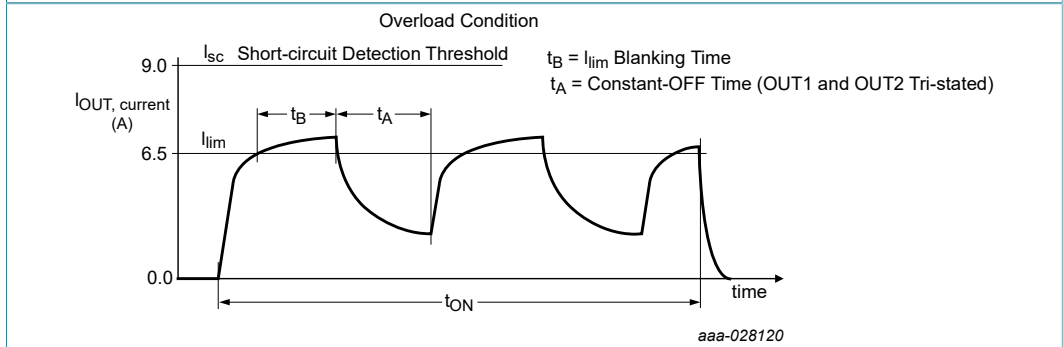
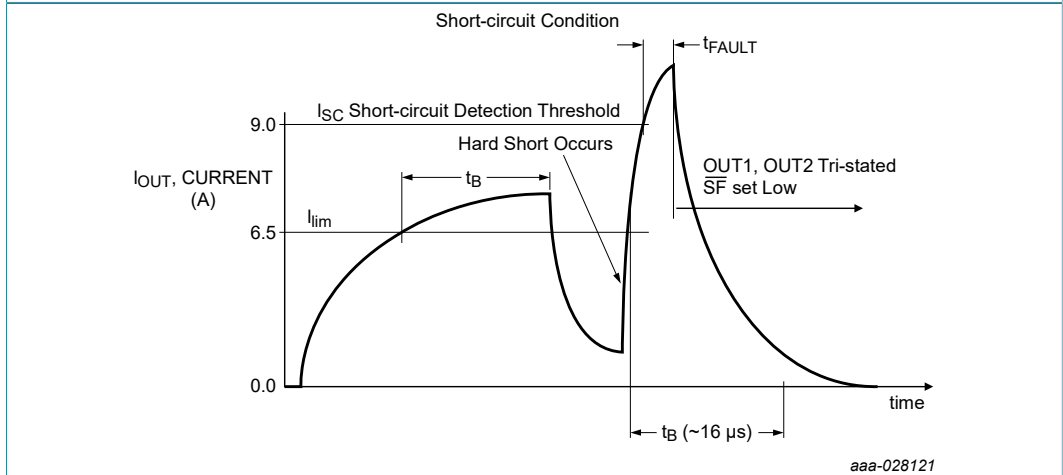
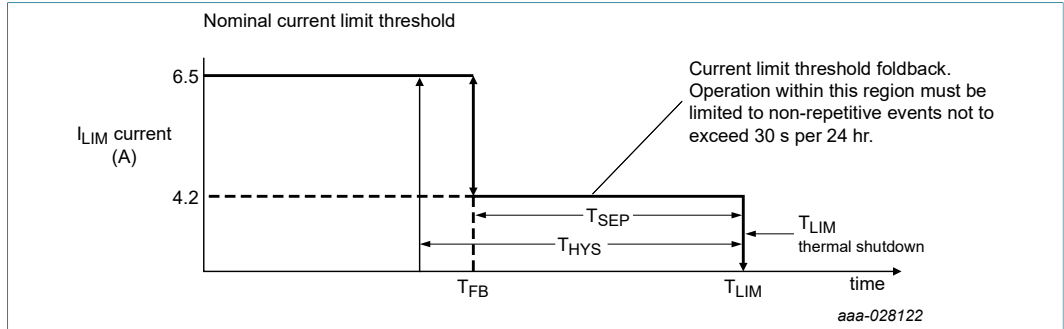

Figure 8. Current limit blanking time and constant-off time
Figure 9. Short-circuit detection turn-off time t_{FAULT}
Figure 10. Output current limiting foldback region
- [9] Load currents ramping up to the current regulation threshold become limited at the I_{LIM} value (see Figure 8). The short-circuit currents possess a di/dt that ramps up to the I_{SCH} or I_{SCL} threshold during the I_{LIM} blanking time, registering as a short-circuit event detection and causing the shutdown circuitry to force the output into an immediate 3-state latch-off (see Figure 9). Operation in current limit mode may cause junction temperatures to rise. Junction temperatures above $\sim 160\text{ }^\circ\text{C}$ causes the output current limit threshold to "foldback", or decrease, until $\sim 175\text{ }^\circ\text{C}$ is reached, after which the t_{LIM} thermal latch-off occurs. Permissible operation within this foldback region is limited to non-repetitive transient events of duration not to exceed 30 seconds (see Figure 10).